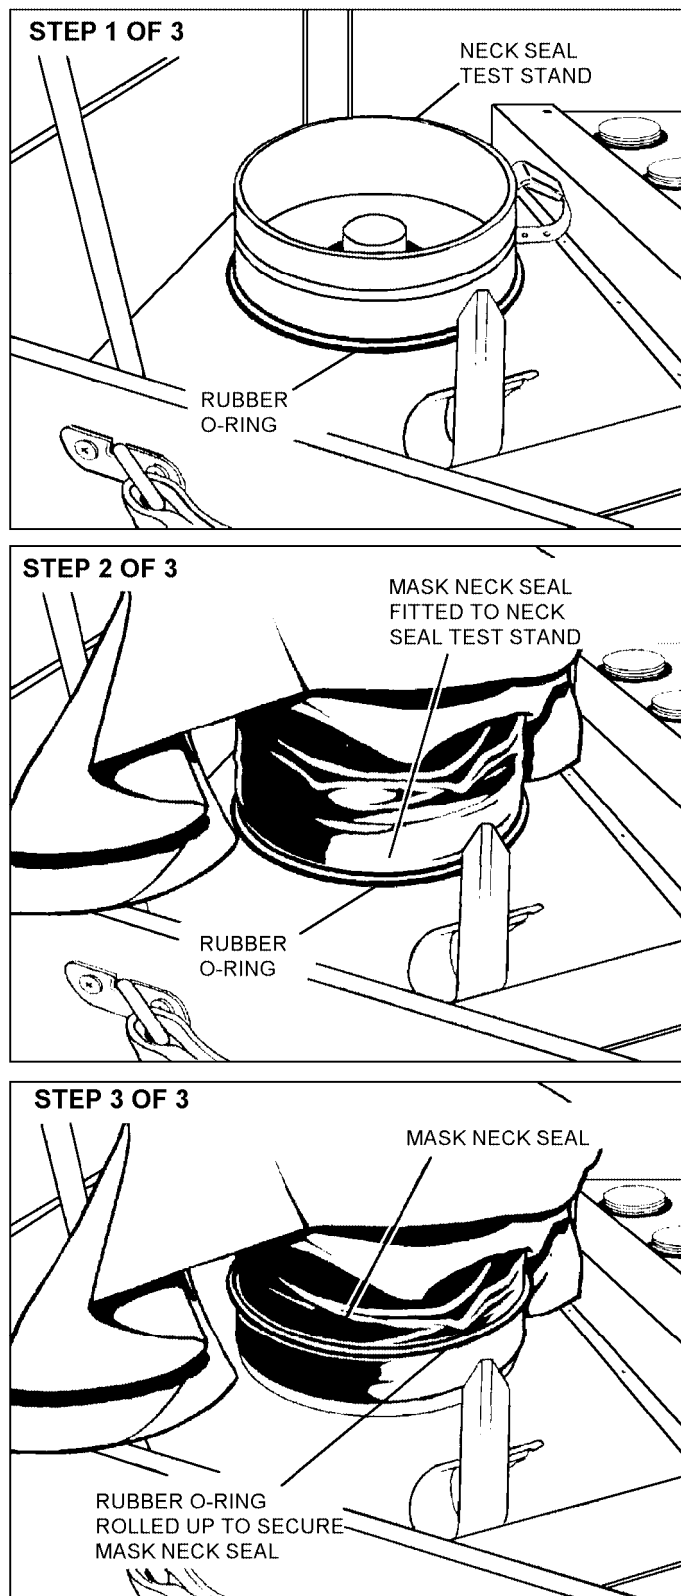

Figure 4-86. Neck Seal Test Stand
5. Fit the respirator neck seal to the neck seal test stand and secure with O-ring (figure 4-86).
1. Ensure neck seal is properly fitted to neck seal test stand (figure 4-86).